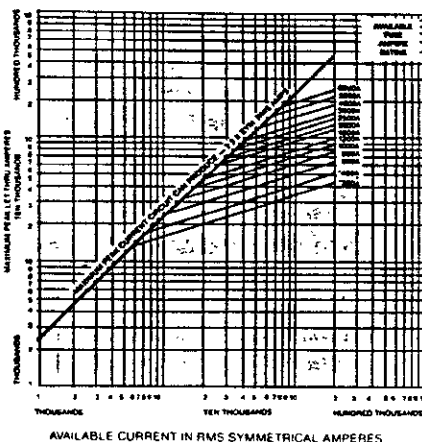
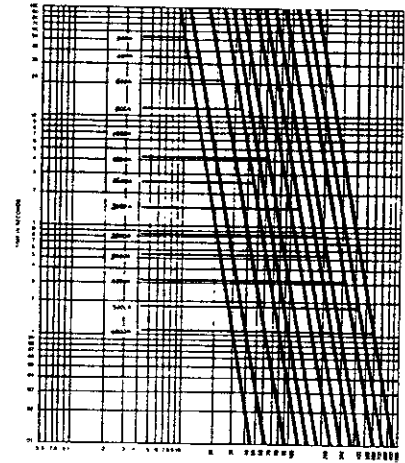

Figure 1 — Amp Trap Let-Thru Curves
Figure 2 — Melting Time-Current Characteristic Curves
Fig. 1, page 22, is a second aid in the selection of the proper Amp-Trap fuse sizes. However, Fig. 1 is not to be used as the only criterion if, as in the case of molded-case circuit breakers, there is an I²t limitation in the equipment to be protected by the fuse (See Fig. 2).
b. If the equipment protected by the circuit breaker has a peak current withstand capability less than the circuit breaker, Fig. 1, must be used to determine the maximum fuse size.
Draw a vertical line on Fig. 1, representing the available symmetrical RMS amperes. Establish the intersection of this line with the peak amperes that the equipment is capable of withstanding. The fuse size represented by the fuse let-thru curve passing below this intersection is the maximum fuse size that should be used. Of course, the smallest fuse size, consistent with coordination, provides the best protection.
b. Enter the fuse melting time-current curve from Fig. 2, page 23, on this newly plotted overcurrent device curve and examine for proper coordination.
To illustrate the use of Fig. 1, Amp-Trap Let-Thru Curves, assume a fault current of 80,000 Amp symmetrical using a 300 Amp current-limiting fuse. Enter table at 80,000 Amp sym. and project to the intersection of this line with the curve for the 300 Amp fuse; then project this point horizontally to a value of 30,000 peak let-thru amp.